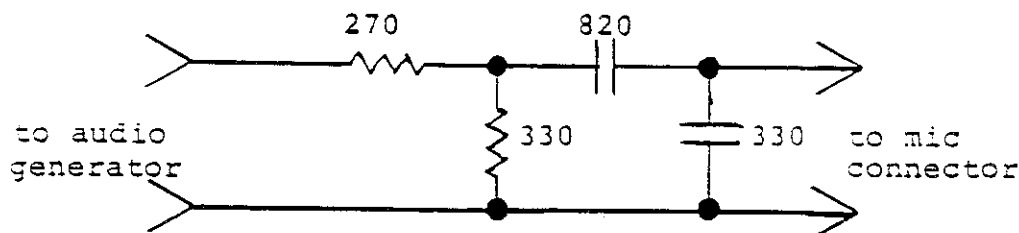

FIGURE 3
6. Mic Matching Network (shown in Figure 3)